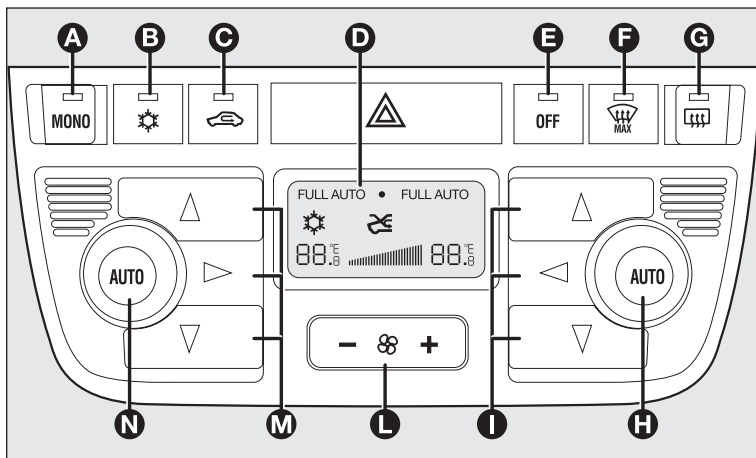

fig. 62
## CONTROLS fig. 62
Press **MONO** to automatically align air temperature and distribution settings in the front passenger area to those of in the driver's area and to therefore set both zones by turning the knob on driver's side only. This function is used to adjust the temperature in the entire passenger compartment in presence of the driver only. To go back to separate air and temperature distribution in the two zones of the passenger compartment, simply turn the knobs **H-fig. 62** or press **MONO A-fig. 62** when the LED on the button is on.
- ❑ forced switching on (inside air recirculation always on), indicated by the turning off of the button led **C**-fig. 62 and symbol  on the display;